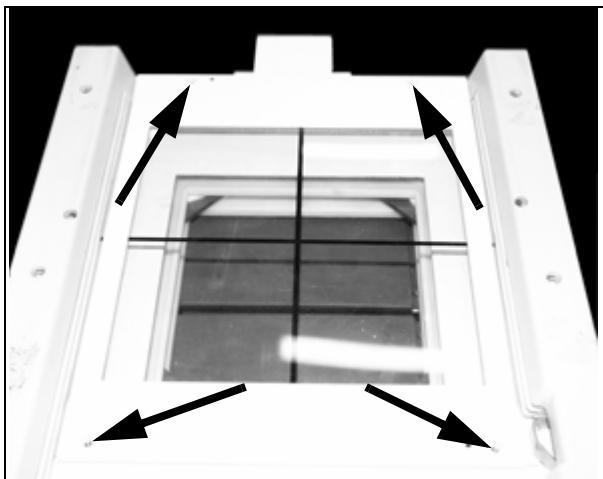
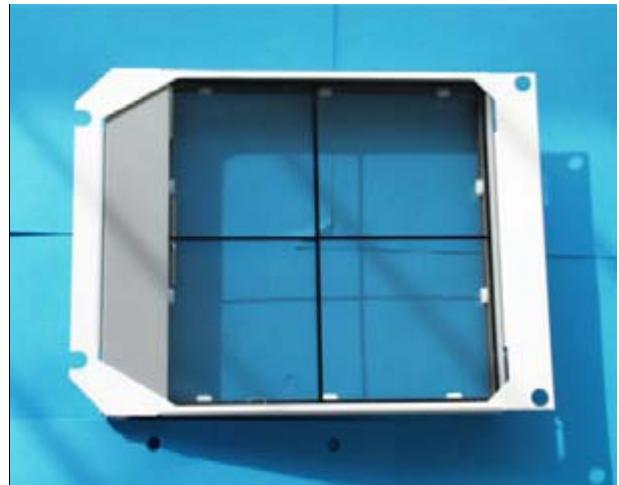

Fig. 1:
Fig. 2:
- Remove the 4 screws with which the transparent plastic cover (Laxan panel with crosshairs) is secured to the metal frame (Fig. 1 / p. 6).
- Insert the KermaX dose measuring chamber with crosshairs (Fig. 2 / p. 6) in the shaft of the N collimator and loosely secure it in place with the mounting frame (without the Plexiglas window and centering pins) and the 4 screws (Fig. 1 / p. 6) (the dose measuring chamber must still be adjusted).